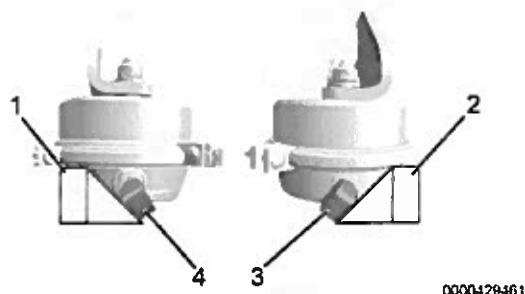

Figure 1. Brake Chamber Fitting Orientation
8. On both front brake chambers, using Fitting Orientation Templates (Figure 1, Items, 1 and 2), Turn 90-degree fitting (Figure 1, Items 3 and 4) inward 45 degree and turn 45-degree fitting facing down.